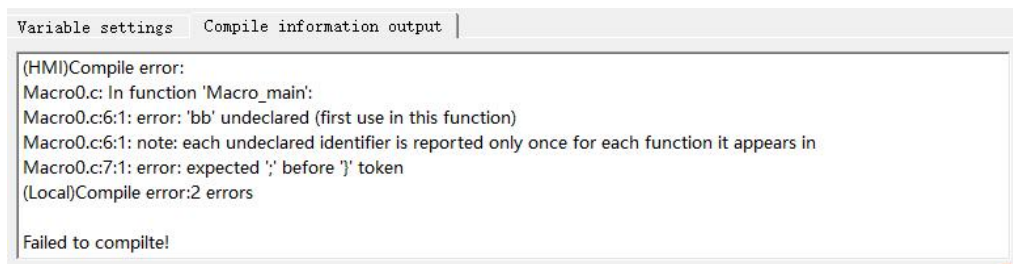

Figure5-6 Compile information output
**“Variable Setting” Page:**click the “new”grid in this page, it will pop out the “New script variables” dialog, as shown in figure5.6.The variable associated with the register.